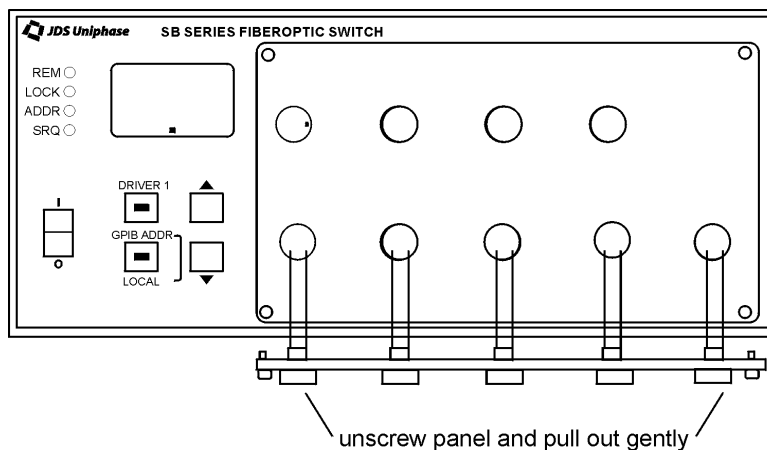

Figure 13: Removing the Connector Panel
- Slowly pull the panel out to the full extent of its guide rails (Figure 13).